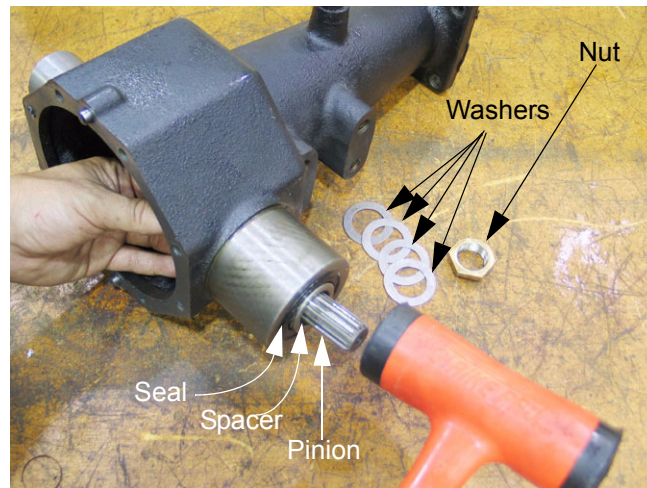

Figure 9.18
- 9.18. Remove the nut and washers from the pinion shaft. keep track of the size, quantity, and position of the washers. See Figure 9.18.